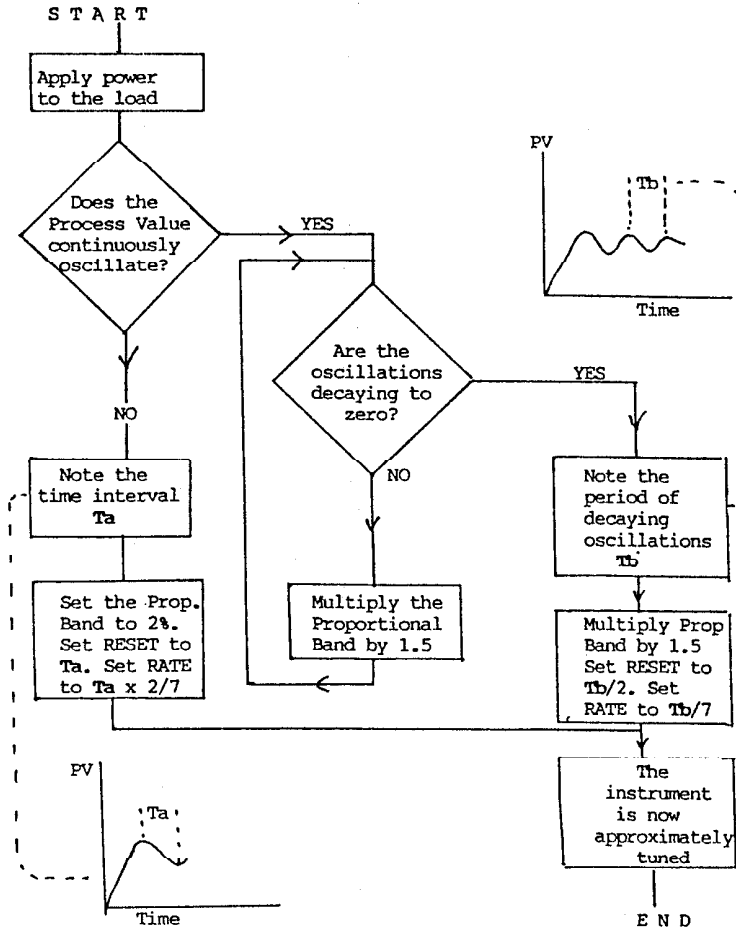

FIGURE 4-2 TUNING THE CONTROLLER
3. Proceed as shown in Figure 4-2. At each stage, allow sufficient time before moving on to the next stage.